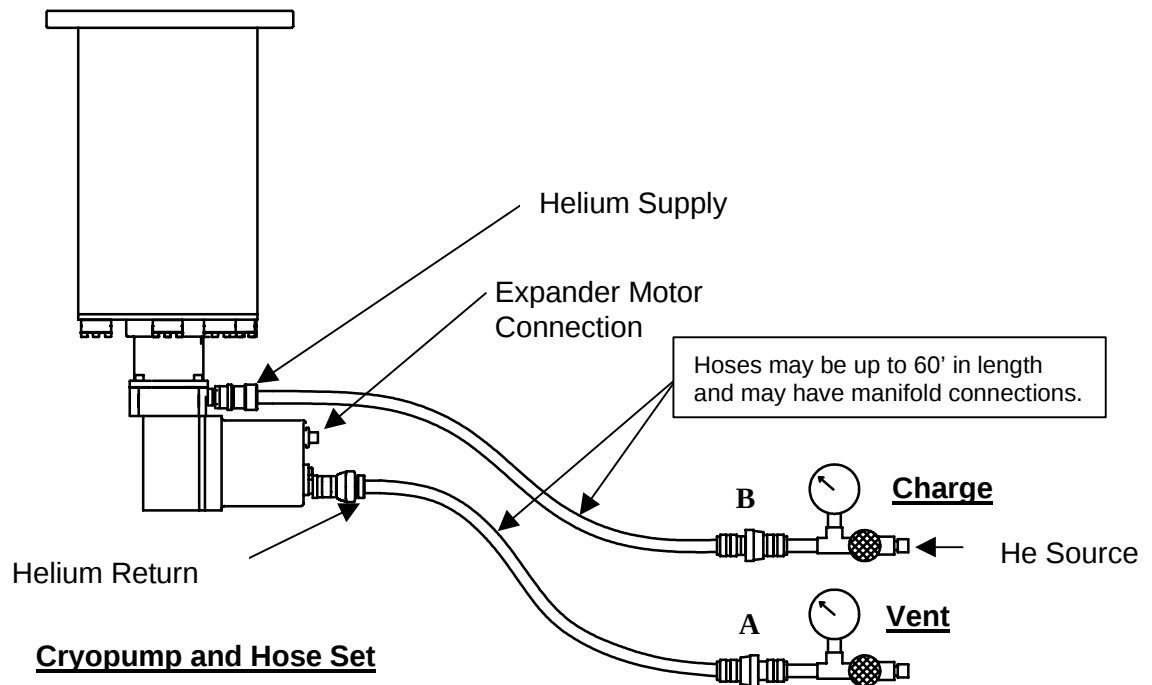

Figure 11: Cryopump and Hose Pump and Purge
- 6.2. Connect the Vent Manifold (adapter with male aeroquip) to the Helium Return Hose (A) as shown in Figure 11.
- 6.3. Connect the Charge Manifold (adapter with female aeroquip) to the Helium Supply Hose (B) as shown in Figure 11. (Note that the Charge Manifold should already be connected to a helium source per Section 5). Verify that the helium source is regulated to 250 psig.
- 6.4. Verify that the Cryopump expander power cable is connected to the cryopump where shown in Figure 11.